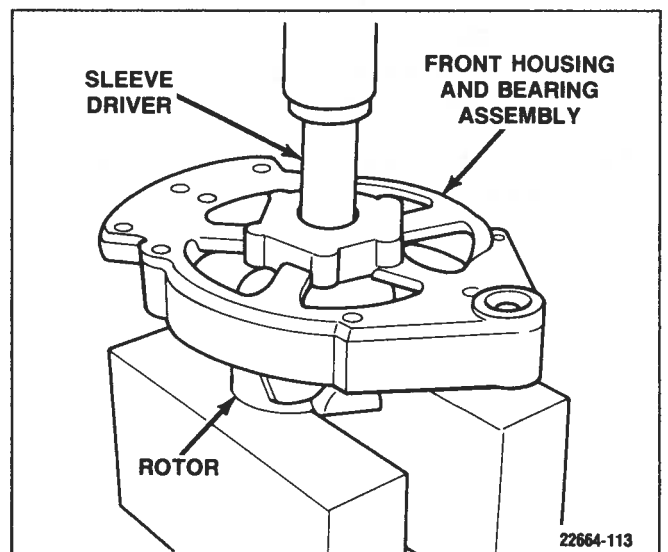

Figure 6-139. Installing Front Housing On Rotor Assembly
3. Press the front housing and bearing assembly down onto the rotor shaft. Press against the bearing inner race only, using a sleeve driver. Take care to insure that the rotor leads clear the steel blocks. (Figure 6-139)